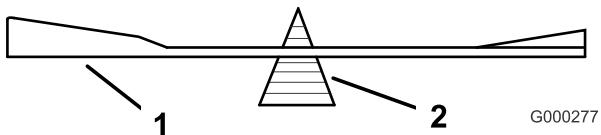
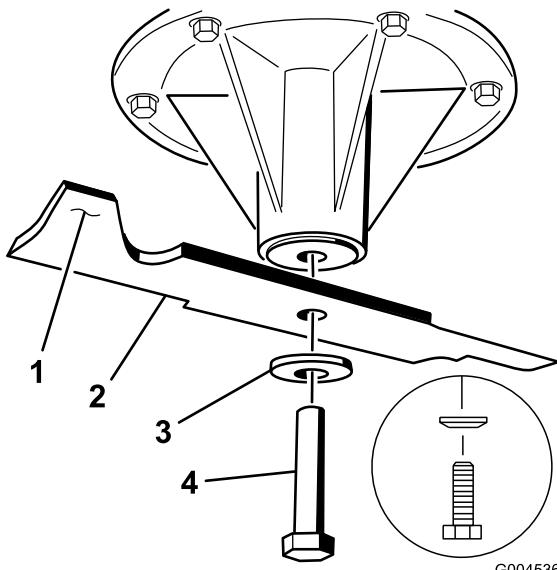

Figure 82
Figure 83
2. Remove the blade bolt, spring disk and blade from the spindle shaft (Figure 83).
2. Check the balance of the blade by putting it on a blade balancer (Figure 82). If the blade stays in a horizontal position, the blade is balanced and can be used. If the blade is not balanced, file some metal off the end of the sail area only (Figure 83). Repeat this procedure until the blade is balanced.
1. Install the blade onto the spindle shaft (Figure 83).
2. Install the curved washer and blade bolt. The curved washer cone must be installed toward the bolt head (Figure 83). Torque the blade bolt to 85-110 ft-lb (115-150 N-m).